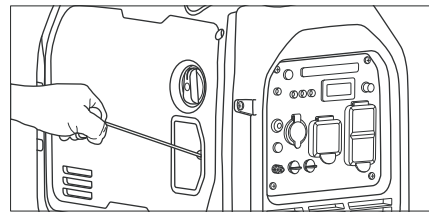

Fig.9
- 2 Firmly grasp and pull the recoil handle slowly until you feel increased resistance, then pull rapidly (see Fig.9).